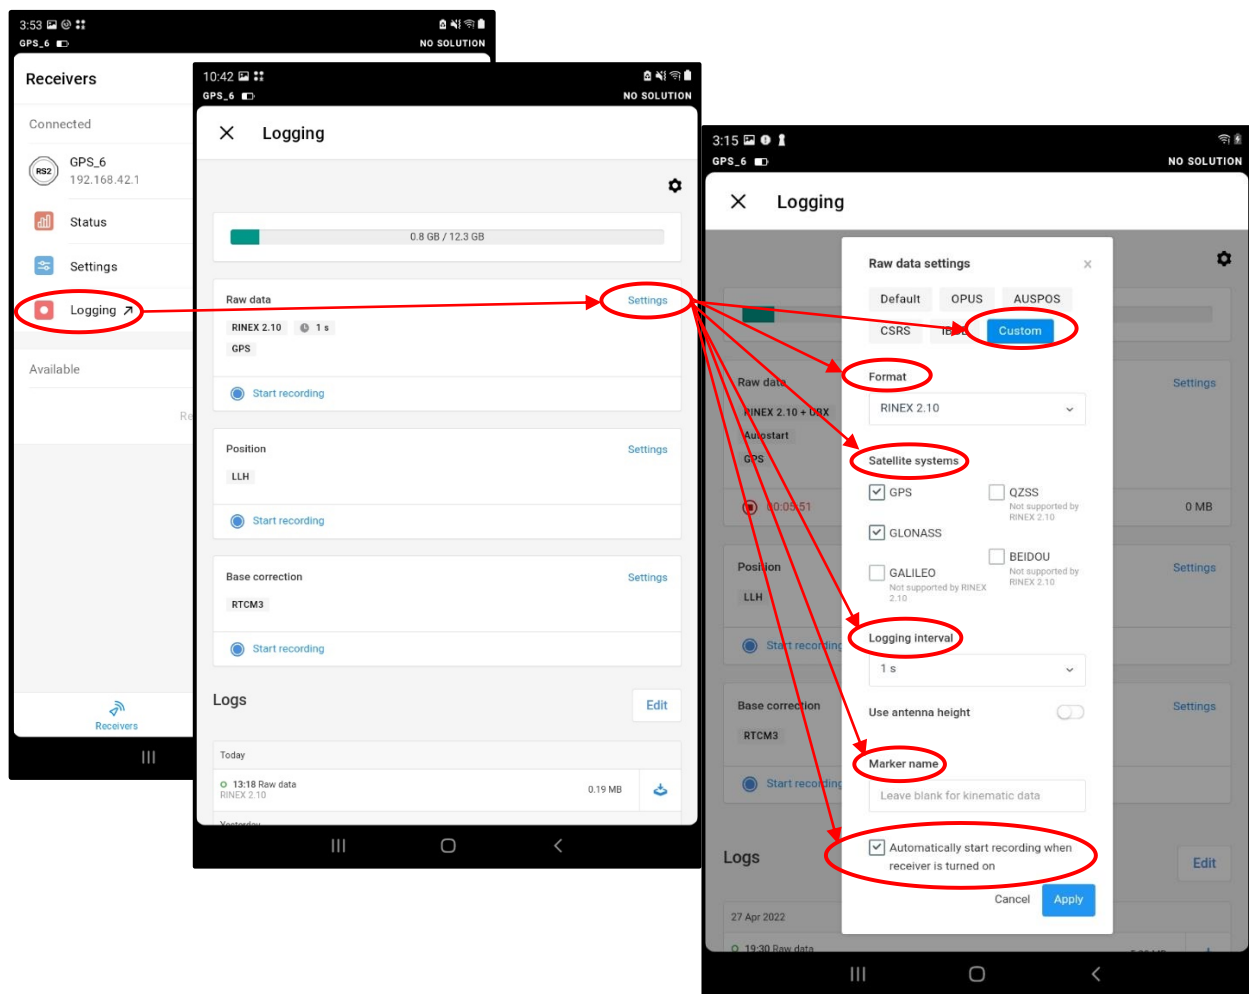

Figure 24. Figure showing the workflow for updating Logging Settings in the ReachView App with red circles and arrows showing the workflow.
- d. Update Logging Settings (Figure 24)